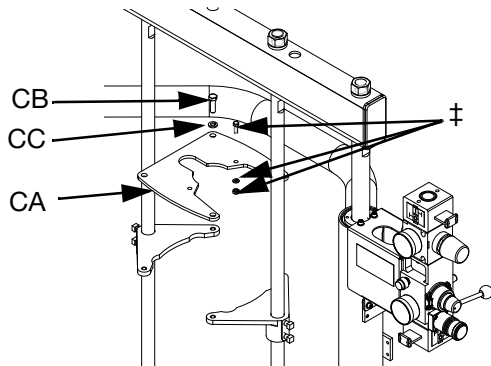

FIG. 8
1. Position the mounting brackets (42) so that the top of the pump will clear the support beam (4).
2. For President and Monark Check-Mate 450 Pumps *only*, install the mounting plate (CA) from kit 224829 onto the mounting brackets (42) using four screws (CB) and lockwashers (CC). See Fig. 8.